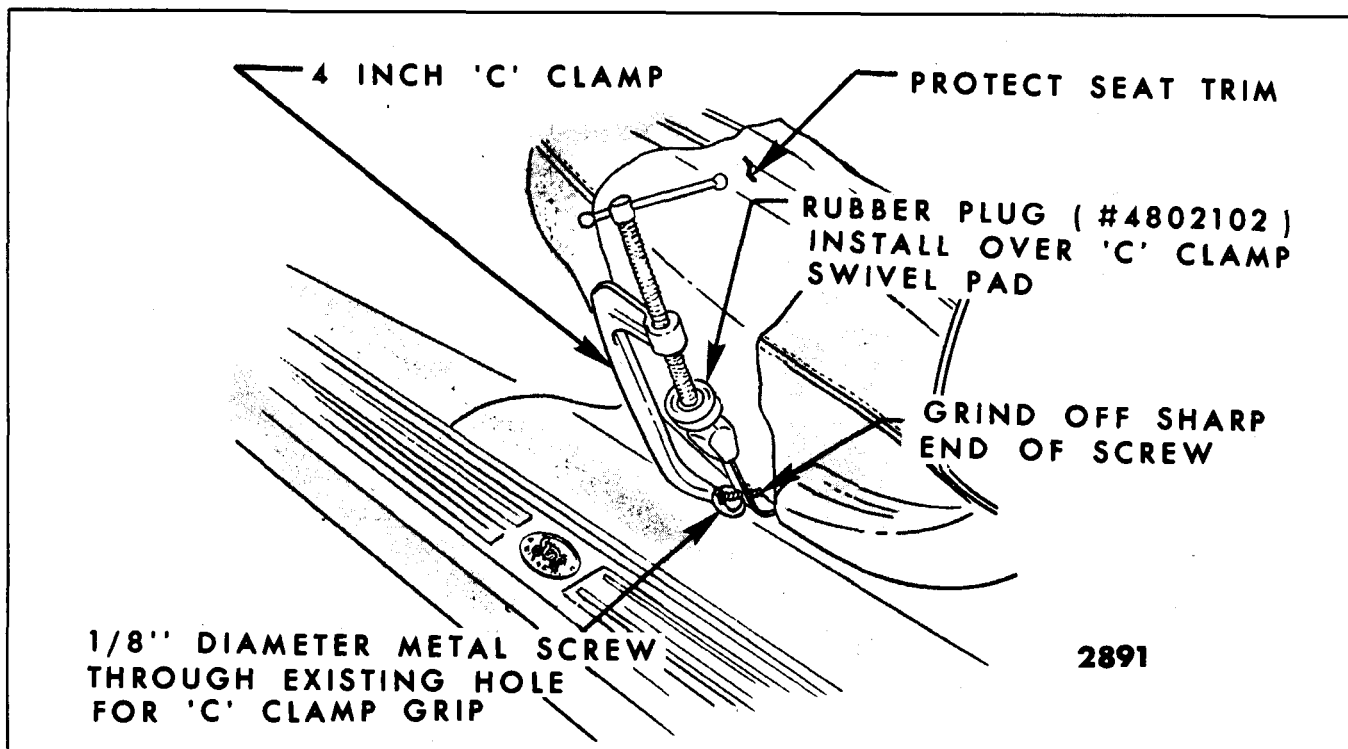

Fig. 14-2-Front Seat Adjuster Control Knob - Installation
- Insert sheet metal screw in hole provided in adjuster control arm and place "C" clamp in position as shown in Figure 14-2. Use round rubber plug (Part No. 4802102 or equivalent) over swivel pad of "C" clamp to prevent damage to knob and to prevent "C" clamp swivel pad from slipping off knob.